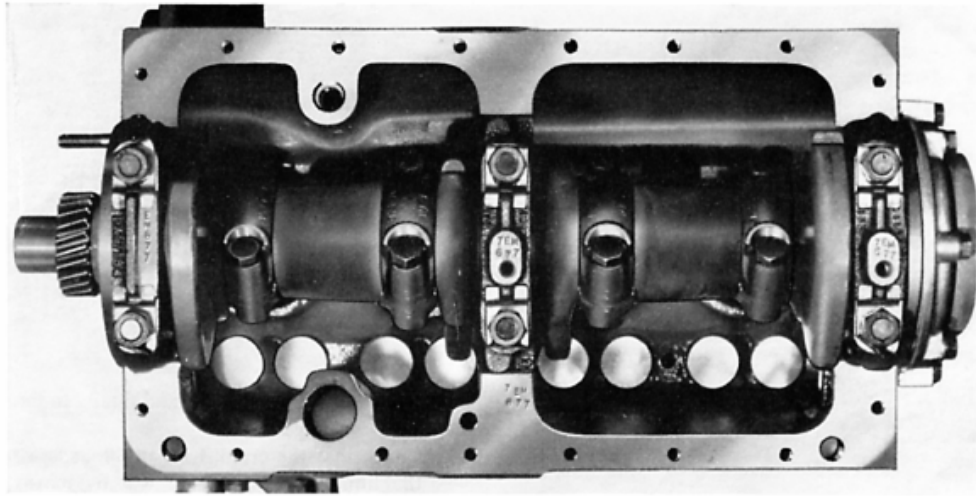

Fig. K.1.
10. Oil crankpins, locate connecting rod bearing shells, ensuring their correct relative positions, then fit connecting rod caps as described on Page H.5. The crankcase should now be as shown in Fig. K.1.